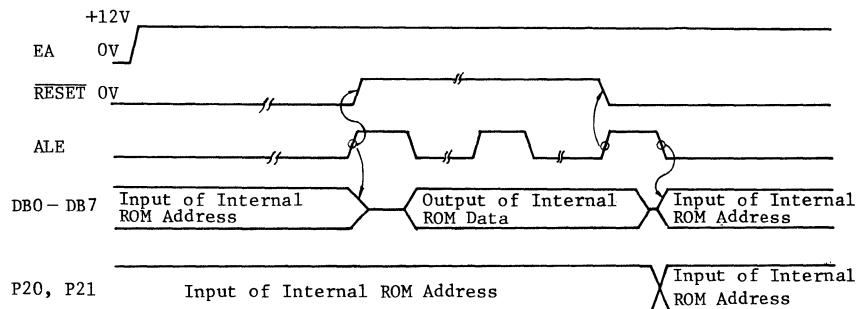

Fig.7 Timing of Rading Internal Program Memory
- Figure 7 illustrates the timing diagram for this operation.